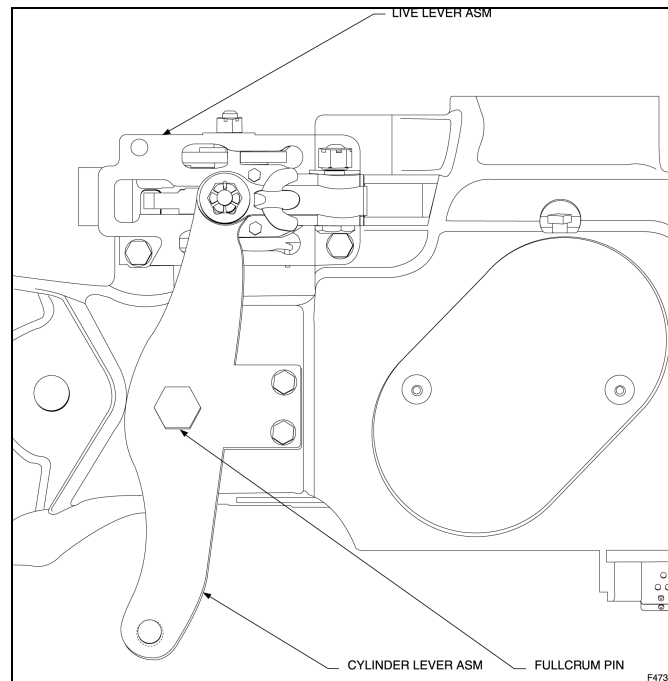

Figure 61 – Application of Brake Cylinder Lever Cross-Over Assembly 47360
6. Apply the Cylinder Lever Assembly by introducing the brake side arm through the lever cap fulcrum, drop the Pin into the fulcrum hole and secure it with Ring-Retainer. Pin the cylinder arm to the Brake Cylinder with the vendor pin and cotter pin. See Figure 61. The Handbrake Lever Assembly is applied into the bogie in same fashion. See the appropriate Brake Rigging Application drawing.